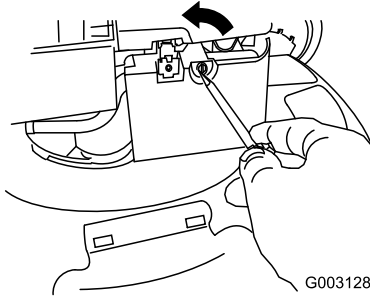

Figure 45
2. Use a screw driver to open the air filter cover (Figure 45).